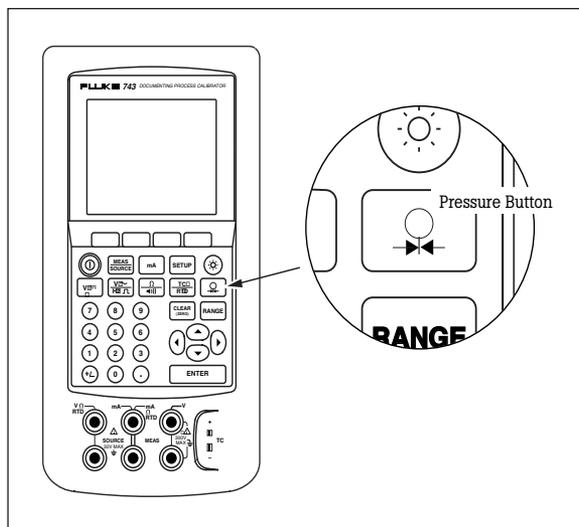

Figure 13
3. Once your connections are made, assuming you are in the power up state (or measure screen), select the "Pressure" button (directly above the "Range" button) (Figure 13).